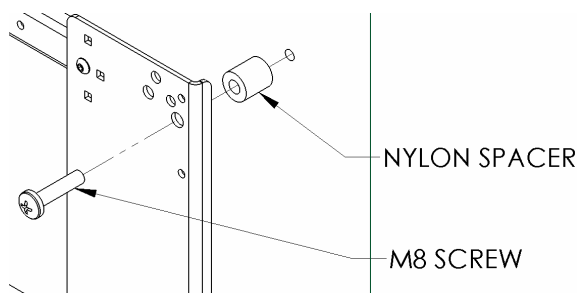
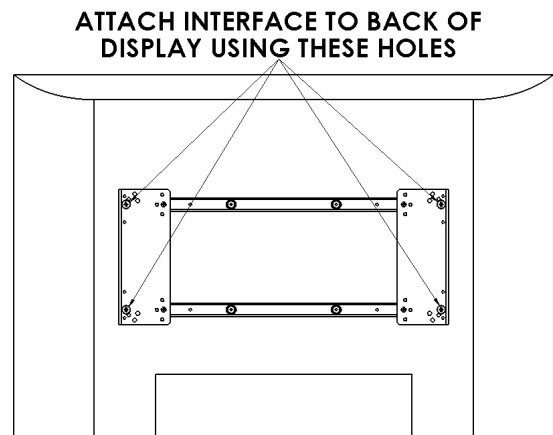

Figure 8
Figure 9
5. **Bracket Installation:** Place Nylon spacers over mounting holes of screen and attach brackets to back of display using the M8 screws (see Figure 8 & Figure 9). Do not over tighten screws.